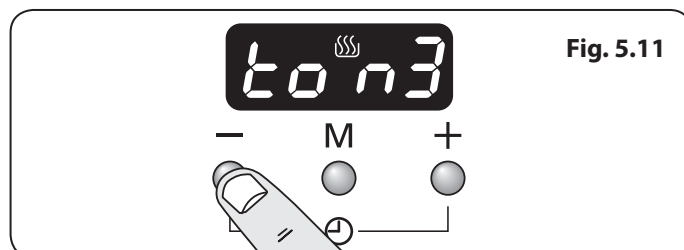

Fig. 5.11
2. To select the tone press the [-] button until desired tone is reached (**Fig. 5.11**).